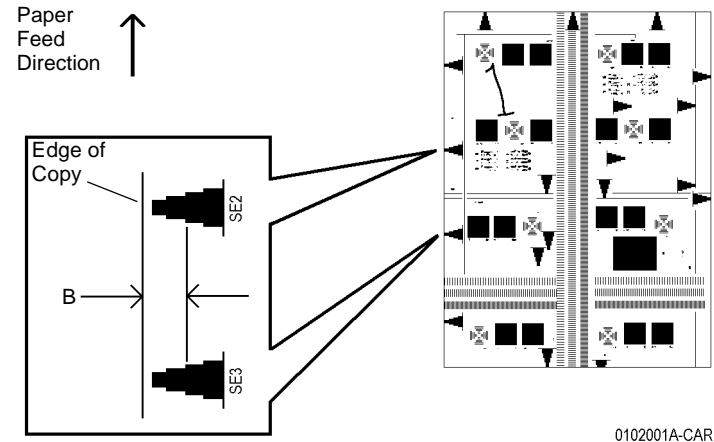

Figure 2 Checking Side Edge Registration of DADF
- d. On side 1 of copy 2 measure and record the distance between the side edge and the reference line and write **B** next to this measurement (Figure 2).